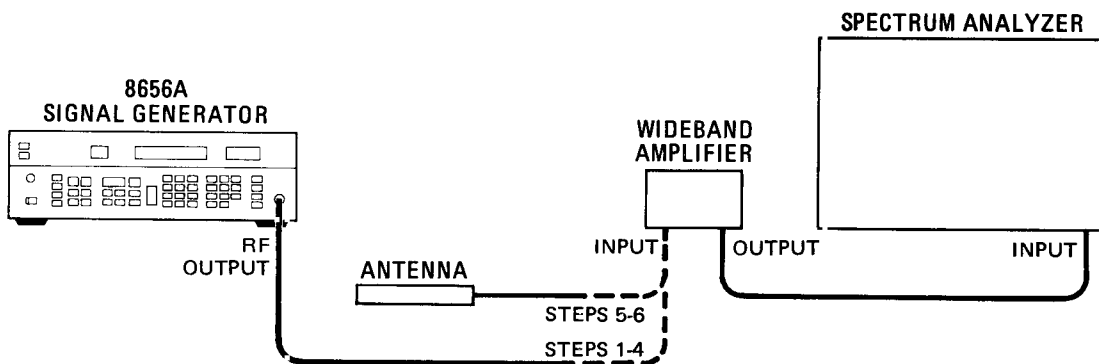

Figure 4-9. Output Leakage Test Setup
**PROCEDURE:** 1. Connect equipment as shown in Figure 4-9.
5. Connect the one-inch loop antenna to the analyzer through the 26 dB amplifier as shown in Figure 4-9. Hold the end of the loop antenna cylinder in contact with the front surfaces of the Signal Generator. All signals and noise should be below the reference graticule line (i.e., below -107 dBm).